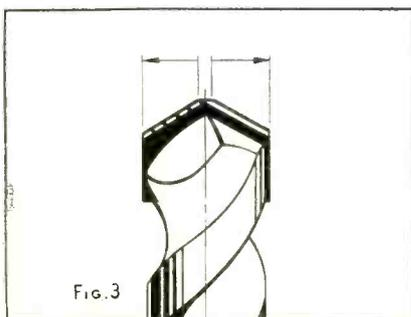

Fig. 3
3. Keep the two cutting edges of the drill of equal length while sharpening (*Fig. 3*). If one edge varies in size, the drill will make oversized cuts.